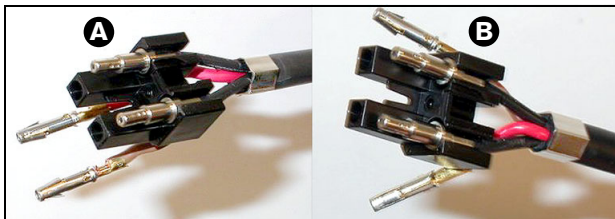

figure 22.32: Mounting block and back housing
- 27 Put the ferrules in the mounting block (see figure 22.32)